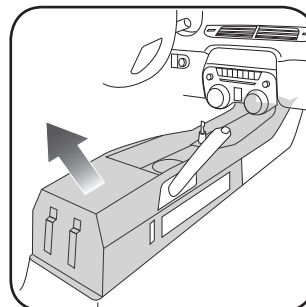

Fig. 1.9
9. Remove the center console cover by pulling upward and lifting it over the parking brake. (Fig. 1.9)